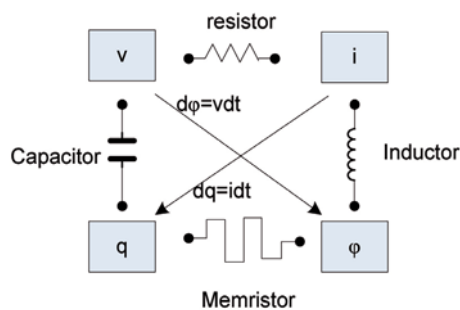

Figure 1: The fundamental circuit components and their relationships
In principle, there are only four basic circuit variables: current (I), voltage (V), charge (q) and magnetic flux (φ). Relations between I and V, I and φ, and V and q are defined via components like resistors (R), inductors (L) and capacitors (C), respectively. However, until 1971, when Professor Leon Chua at Berkeley defined the memory resistor, also known as 'memristor', the relationship between q and φ was left undefined; see Figure 1.